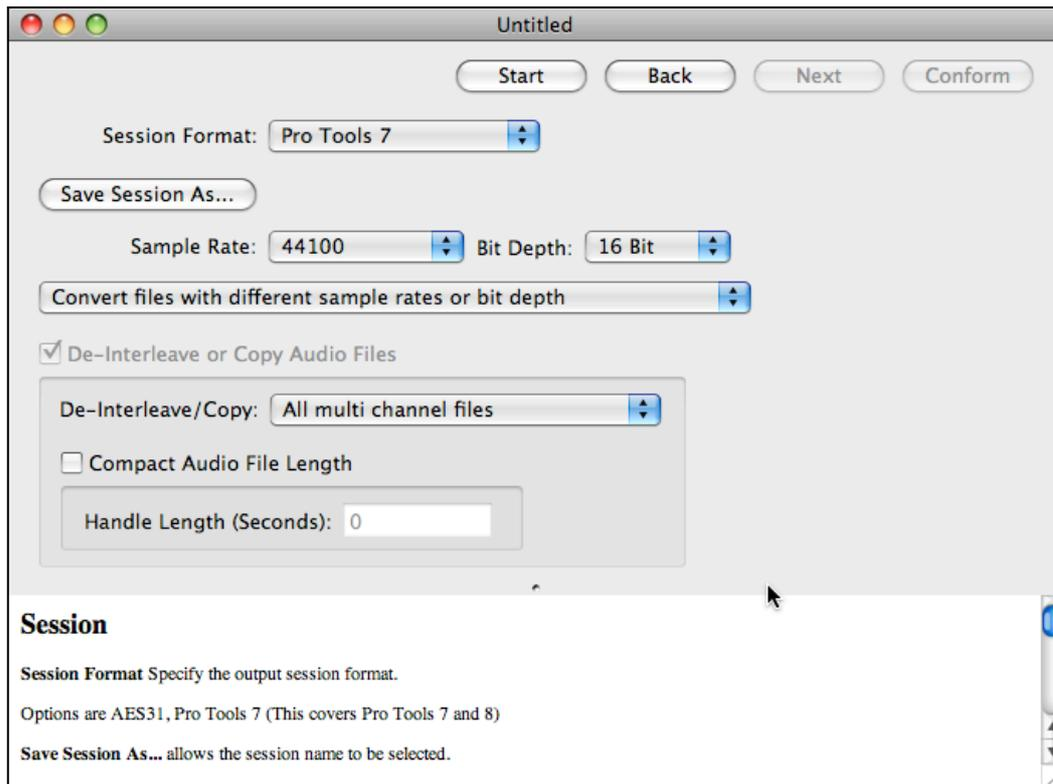

Figure 11 Session format window
- Using the 'Session Format' menu, for the tutorial example click Pro Tools 7 (which also serves Pro Tools 8), or the session format you are using for your own conform (AES 31 is the other option). The Flash Conform window will then look as shown in Figure 11.